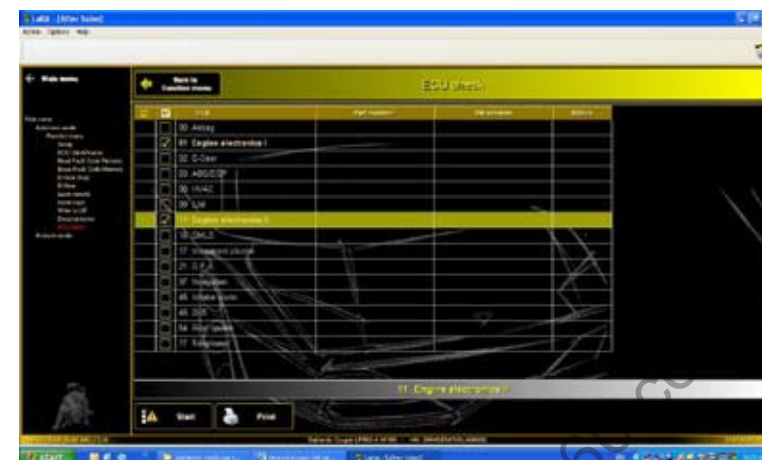

Fig.104
2. Select the 2 engine control units and start the control unit check up (**Fig.104**).